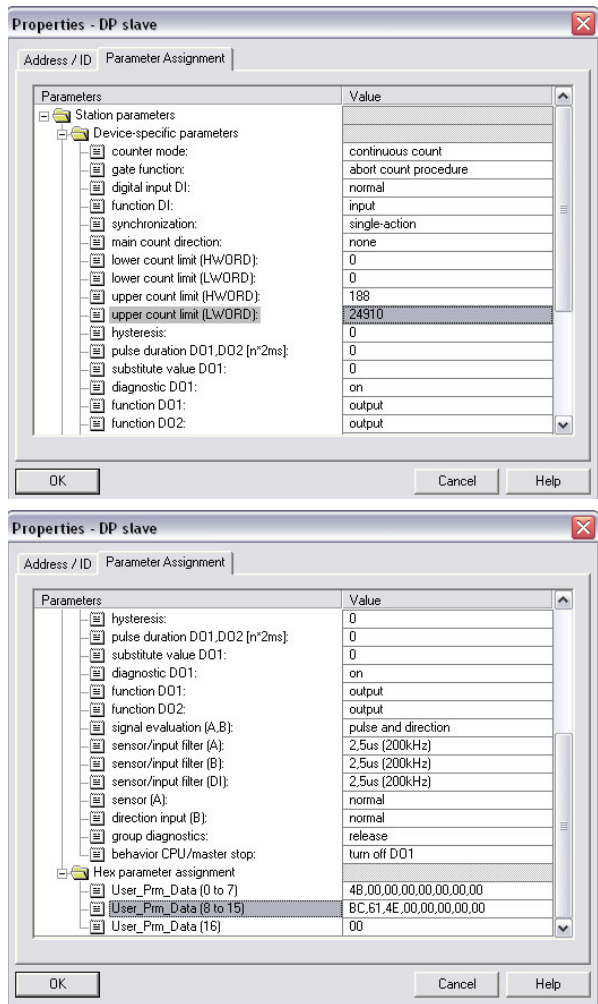

Figure 27: Entering the upper count limit as a High and Low word
- The calculated values are entered in the appropriate entry lines of the parameter mask for the XI/ON counter module (count mode) (see Figure 27).